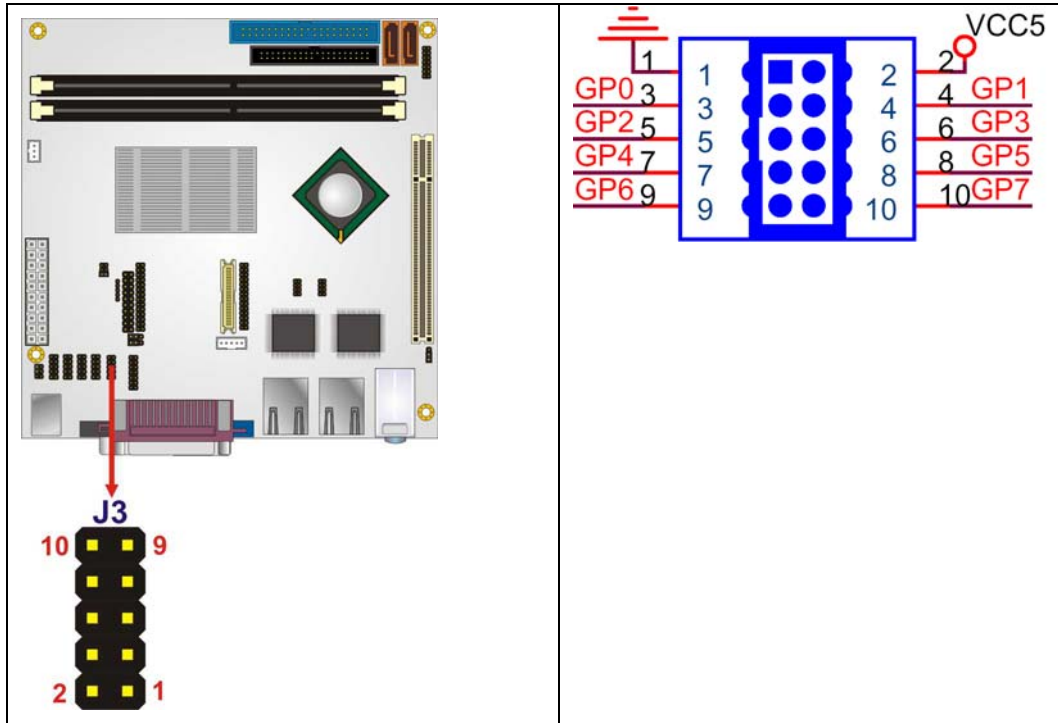

Figure 4-6: GPIO Connector Pinout Locations
- CN Location:** See Figure 4-6